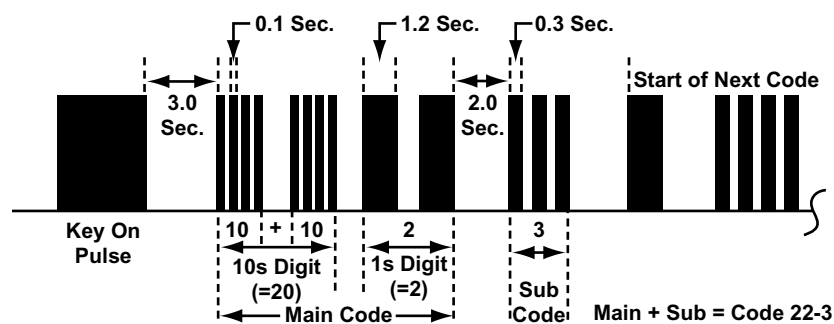

Figure 8-43 Honda SRS Code Type 06
- Type 06, see Figure 8-43 and Table 8-12 on page 86